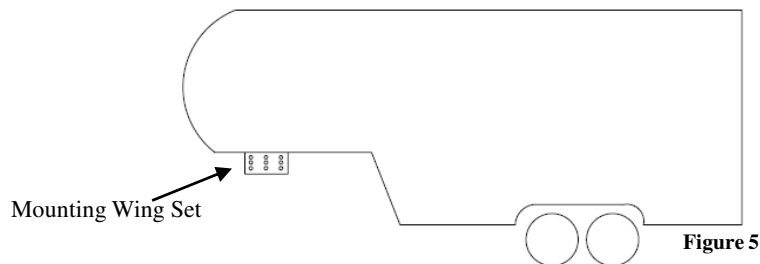

Figure 5
1. Before removing the original pin box, take note of the number of bolts used attaching the existing pin box to the mounting wing set. Cequent Performance Products recommends using at least the same number of bolts upon installation as removed from the original pin box. (Figure 5)